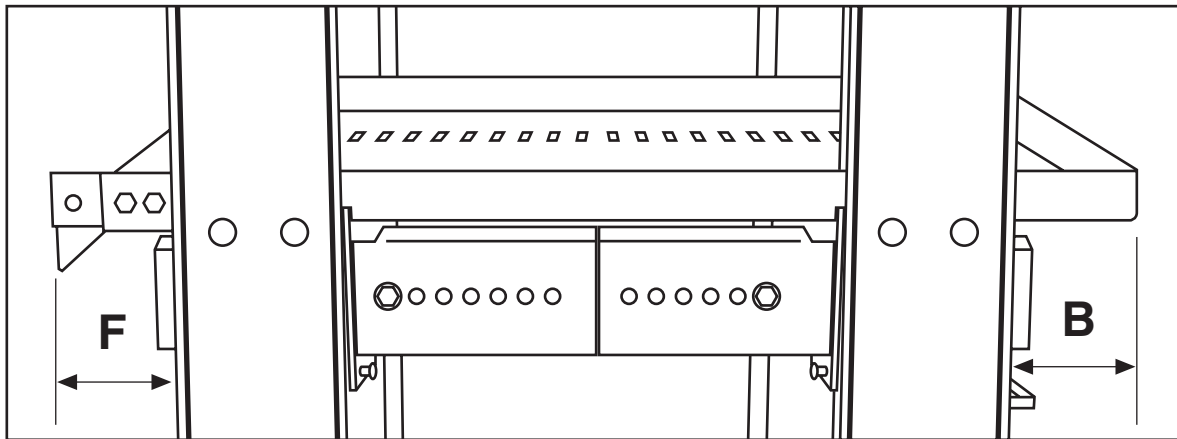

Figure 2. Front and rear dimensions.
9. Install the stop brackets on the Pull-Out Shelf using the #8-32 hardware. Use the mounting holes from Table 3-1. See Figure 2 for the location of stop bracket mounting holes. The Pull-Out Shelf is now ready to be installed in the Freedom Rack.